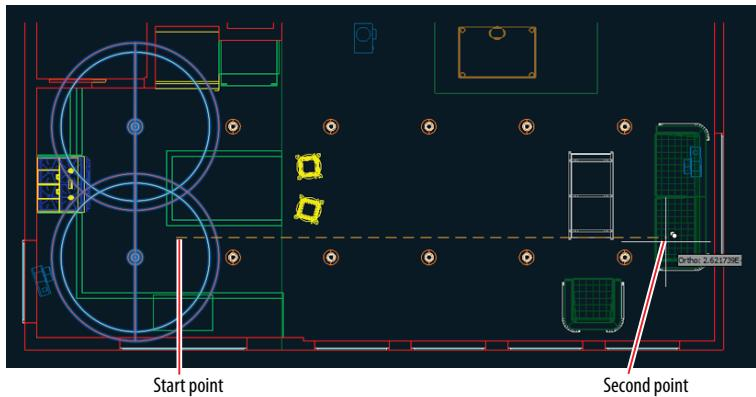

FIGURE 18.8 Copying spotlights in a rectangular array
12. Type **F** (for Fit), and press Enter. Move the cursor under the rightmost light fixture (see Figure 18.8), and click to specify the second point of the array. Press Enter to exit the ARRAY command.